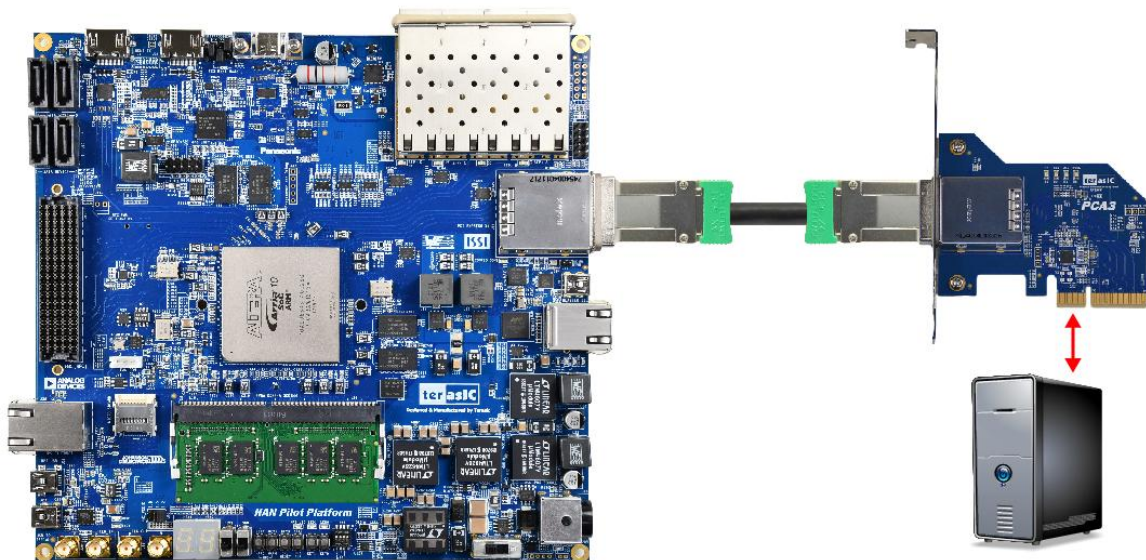

Figure 5-3 FPGA board connect to PC
3. Plug the PCIe adapter card into the PCIe slot on the PC motherboard. Use the PCIe cable to connect to the HAN Pilot Platform PCIe connector and the PCIe adapter card (See **Figure 5-3**)